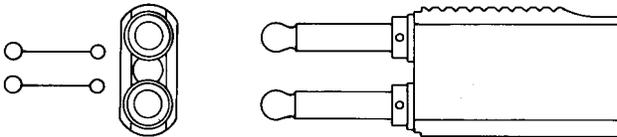

Fig. 1—209 Plug
2.01 209: The 209 plug (A&M Only) (Fig. 1) replaces the 43 plug and is used with the 99, 215, 216, 217, 218, 223, 225, 226, and 227 jacks.